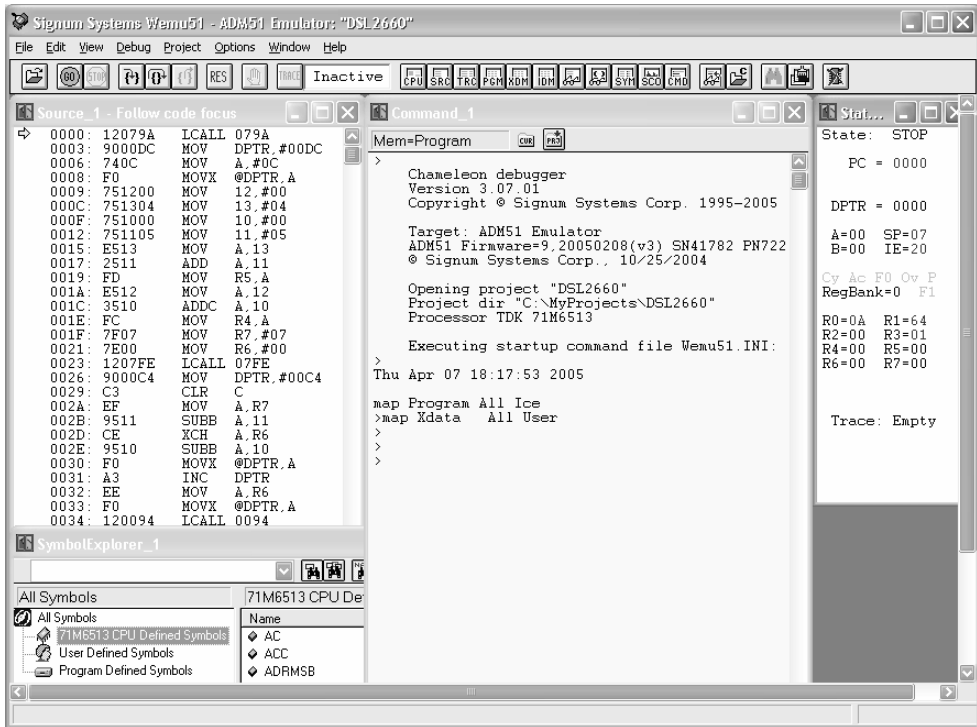

FIGURE 9 Chameleon WEMU51 opening screen.
12. Press the Select button. The initial debugger screen should look as shown in Figure 9.